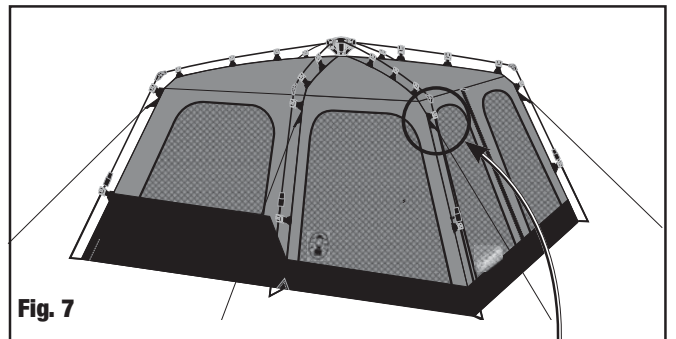
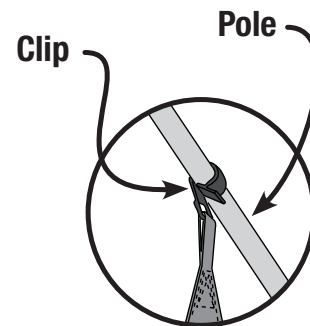

Fig. 7
Fig. 8
- Verify the clips along the edges of the tent are properly attached to the frame poles. (Fig. 7 and Fig. 8)